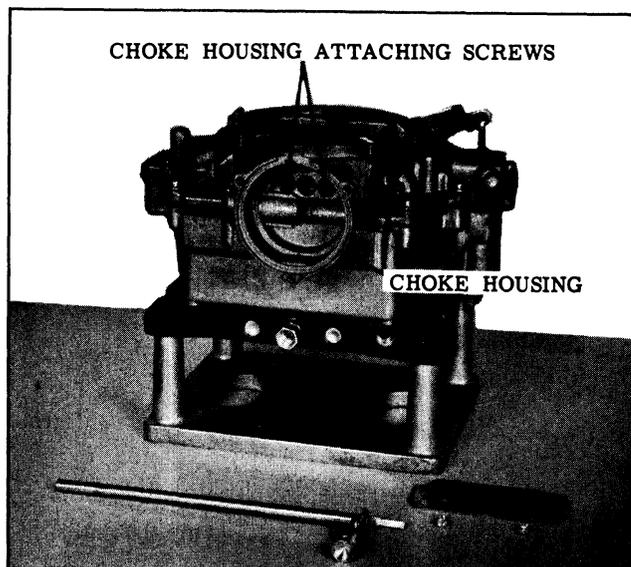

Fig. 8-90 Removing Choke Housing
10. Remove the choke housing attaching screws, and remove the choke housing and gasket from the air horn. (See Fig. 8-90)